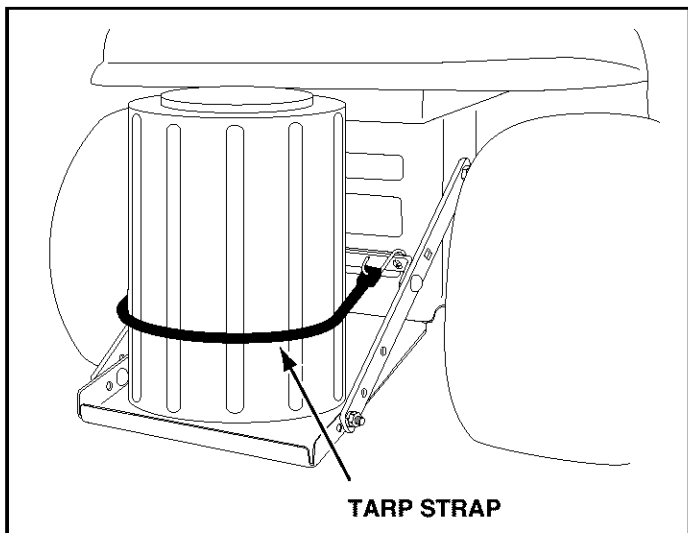

FIGURE 34
- Secure the keg with the rubber tarp strap hooked into the holes in the cross brace. See figure 34.